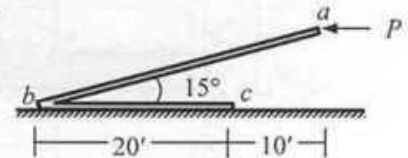

Fig. 1
1. Fig. 1 shows a rigid body  $abc$  with uniform bars  $ab$  and  $bc$  weighing 30 lb and 20 lb respectively.